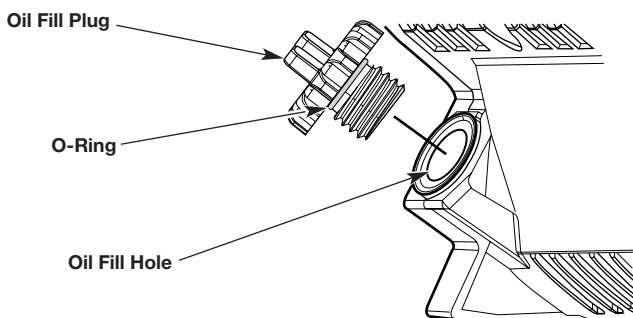

Fig. 6
2. Unscrew the oil fill plug (Fig. 6).
5. Reinstall the oil fill plug. Make sure the O-ring is in place on the oil fill plug (Fig. 6).